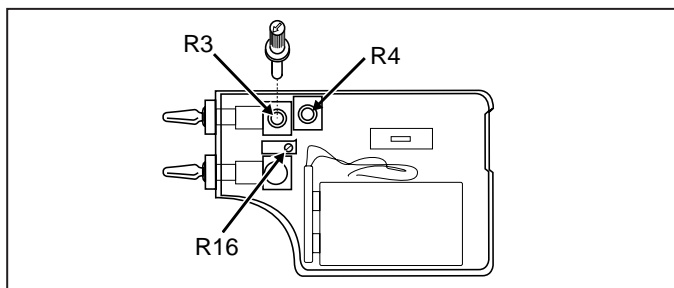

Figure 3. Calibration Adjustment Points
7. Center the ZERO potentiometer, R3 (see Figure 3). Remove the knob from R3 and insert it into R4 (the coarse zero adjustment). With no pressure applied, set the reading to $0V \pm 0.0003V$. Insert the knob back into R3, and adjust the final reading to $0.0000V, \pm 0.0001V$.